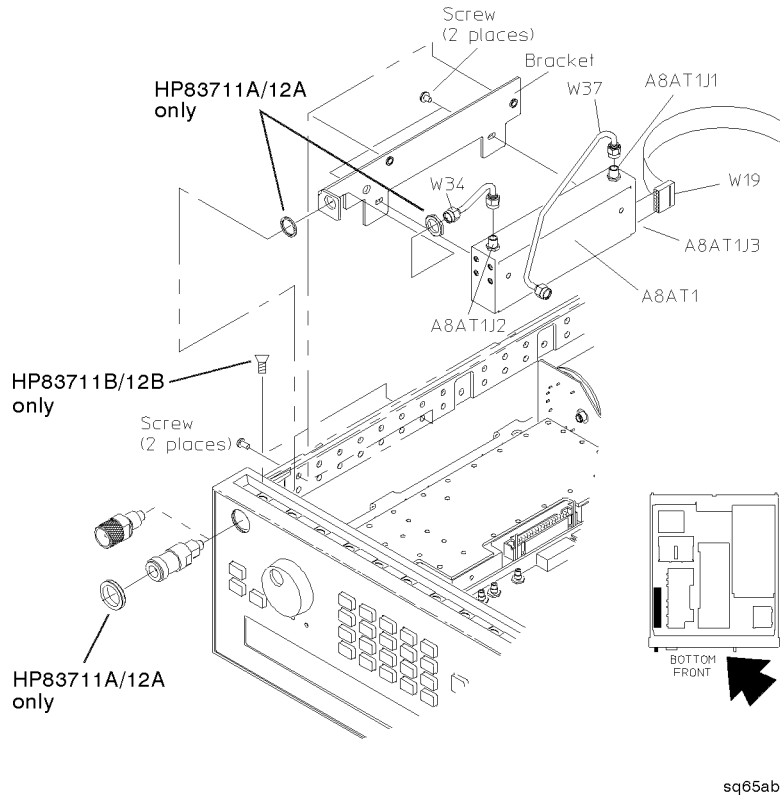

Figure 5-31. RF Output Connector Removal-Option 1E1
3. For the HP 83711A/12A only, remove the knurled nut from the front panel RF Output Connector/Adapter, CP1, if it is Type-N. See Figure 5-30 or Figure 5-31.
6. If your instrument has Option 1E1, refer to Figure 5-31, and perform the following steps: